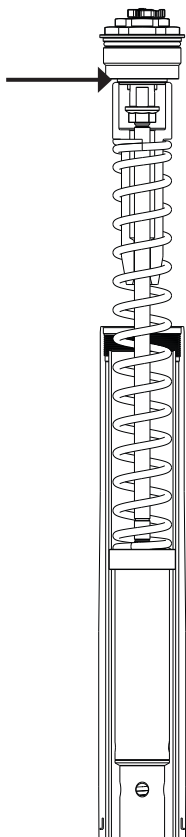

Fig. 19: Check that all components were assembled correctly.
16. Check that the spring guide is correctly seated on the top cap (Fig. 19; arrow), and that the spring, spring retainer, preload spacer, and top cap assembly are all aligned properly.